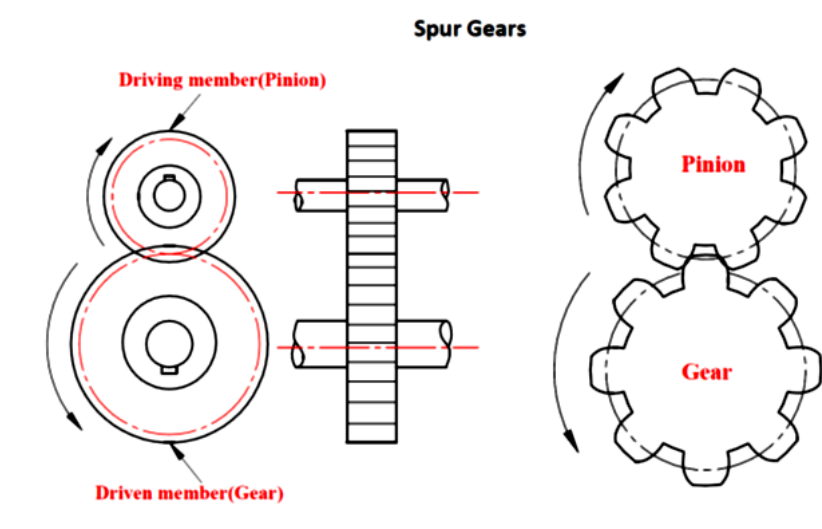

Fig. 4.6 Spur gears
- This is the simplest form of gears for transmitting power between two parallel shafts. The teeth are straight & parallel to the axis. Fig. 4.6 shows the spur gears.